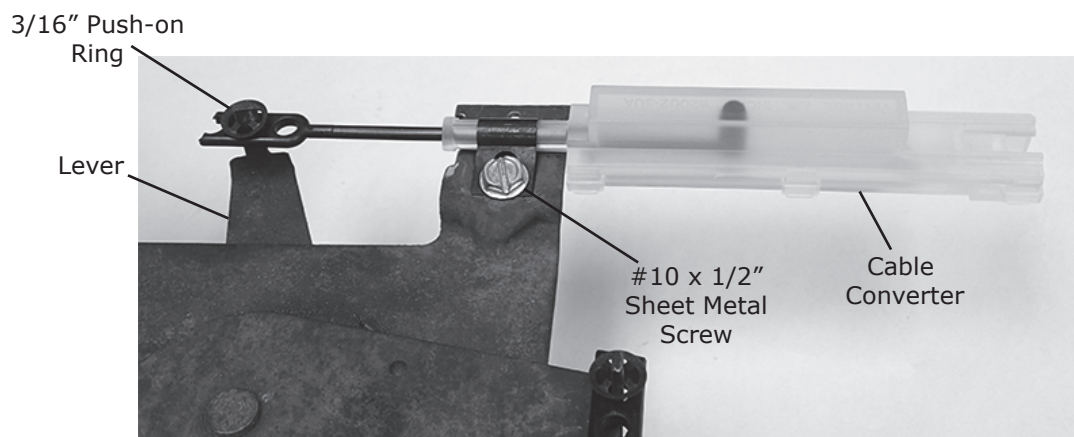

Figure 7
1. Install cable converter lever push rod onto OEM cable mounting stud on lever (See Figure 7, below).
2. Secure the cable converter to the tab using a #10 X 1/2" sheet metal screw through the clamp as shown in Figure 7, below.
4. Secure the cable converter lever push rod onto the OEM cable mounting stud using a 3/16" push-on ring (See Figure 7, below).